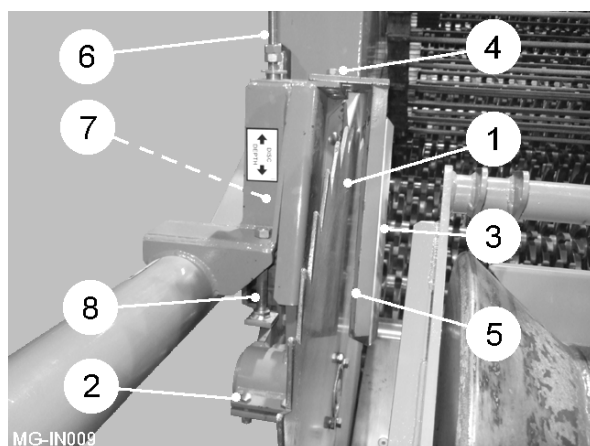

Fig 9
The discs (item 1, fig 9) cut and contain the soil while feeding it over the shares onto the stars. Both discs should be adjusted so that the inner faces are approximately 5 mm from the outside edge of the share blades. To adjust the discs, slacken hub clamp bolts (item 2, fig 9) and slide the disc to the required position. Retighten clamp bolts.
The disc scrapers (item 3 fig 9) will need to be adjusted to suit the new disc position. To do this, slacken the scraper bracket bolts (item 4 fig 9) and reposition the scraper until just clear of the disc surface and retighten. As the scraper wears it can be adjusted closer to the disc by slackening the bolts (item 5 fig 9).
The pressure setting of the discs is set on the spring rod (item 6 fig 9). The spring pressure should be sufficient to keep the disc turning in the soil while at the same time allow it to rise up over any obstructions. Spring pressure is increased/decreased by raising/lowering the spring rod bottom locknuts (item 7, fig 9). Maximum disc height is limited by the depth stop (item 8, fig 9).